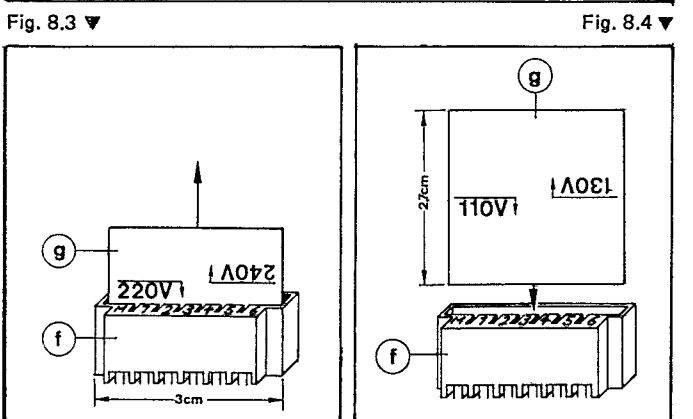

Fig. 8.3 ▼
- Remove p.c. board ⑥ from the blue socket ⑦ at the transformer (Fig. 8.3).